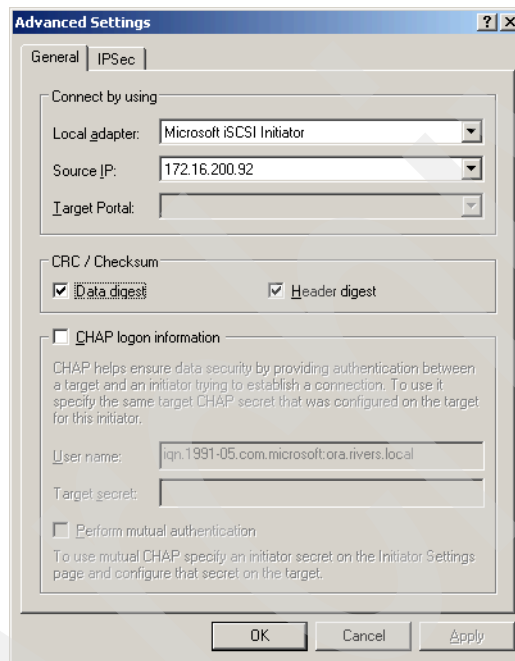

Figure 23-23 Advanced settings
4. Click **Advanced...**. Select the Microsoft iSCSI initiator from the **Local adapter** drop-down menu. In the **Source IP** drop-down menu, select the IP address of the node that is connected to the same network as the specified iSCSI portal IP address. Check **Data digest** and **Header digest**, as shown in Figure 23-23, and click **OK**.
5. The Add Target Portal window (Figure 23-23) appears. Click **OK**.